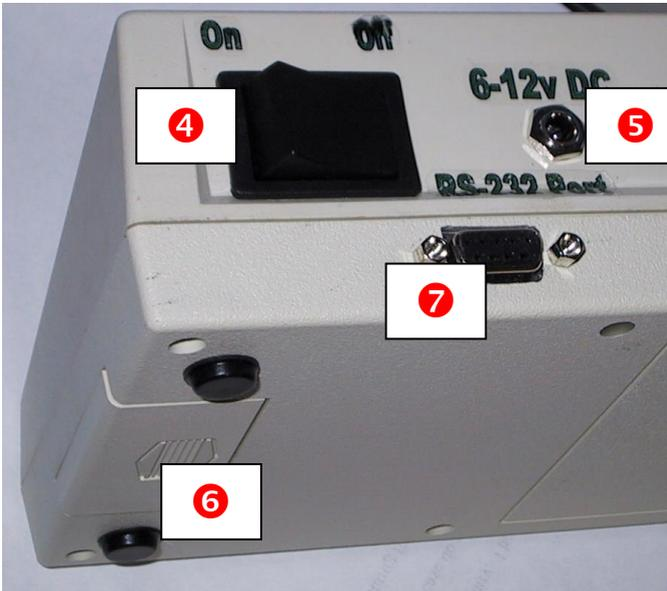

Figure 2: Back Panel View
Figure 2 shows the back panel of the Quick Check, including the power switch ④, the power port ⑤, the battery compartment ⑥, and the PC communication port ⑦.